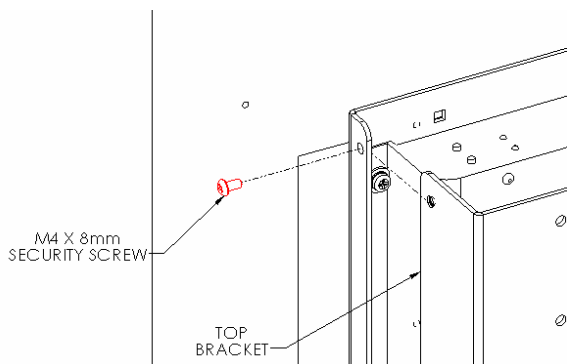
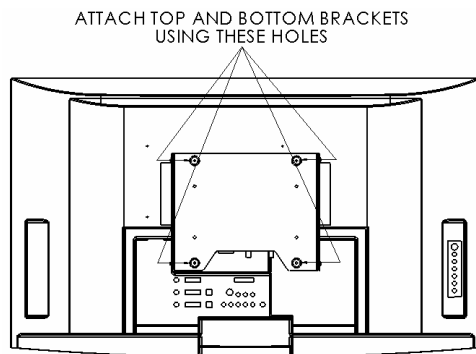

Figure 6
Figure 7
- Attach top and bottom brackets using four M4 x 8mm Security button head screws (see Figure 6 & Figure 7).